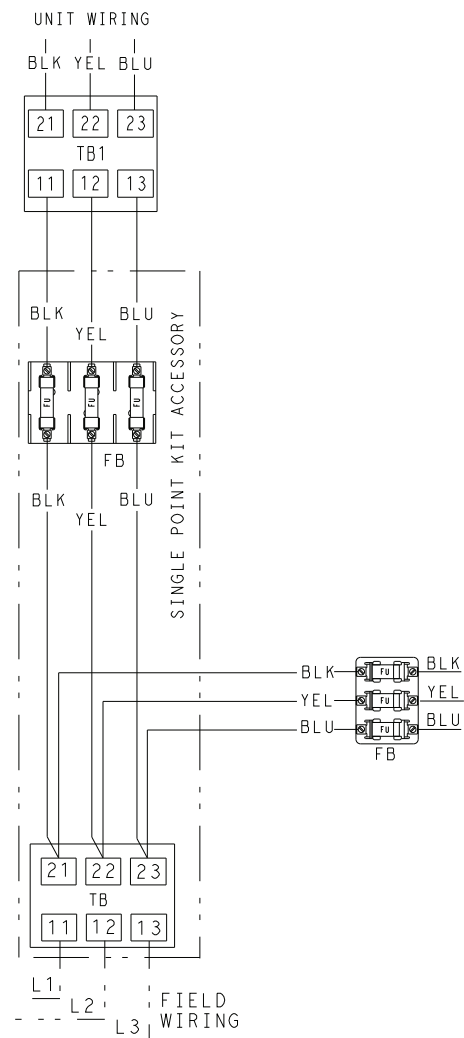

Fig. 46 — Wiring Diagram for Single Point Kit Accessory When Required
7. To be used with Standard SCCR (5ka) Units Only. Refer to Fig. 46 for wiring single point kit accessory when required. Using three 1/4-20 nuts, connect power wires to the load side of terminal block.